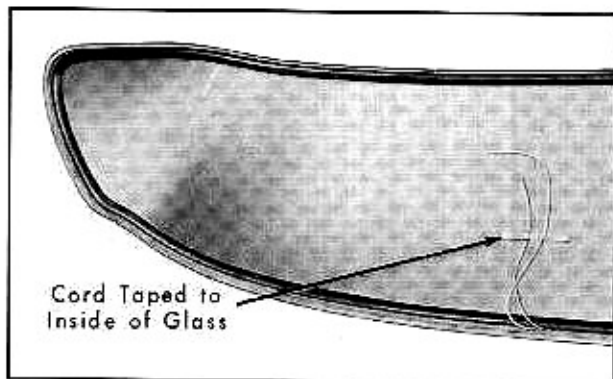

Fig. 3-11 Installing Cord on Rubber Channel
6. Insert a strong cord into pinchweld cavity of rubber channel, completely around windshield with loose end taped to inside of glass at bottom center. Fig. 3-11.